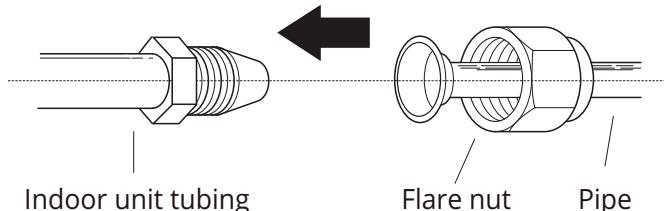

Fig 6.7
1. Align the center of the two pipes that you will connect. See **Fig. 6.7.**